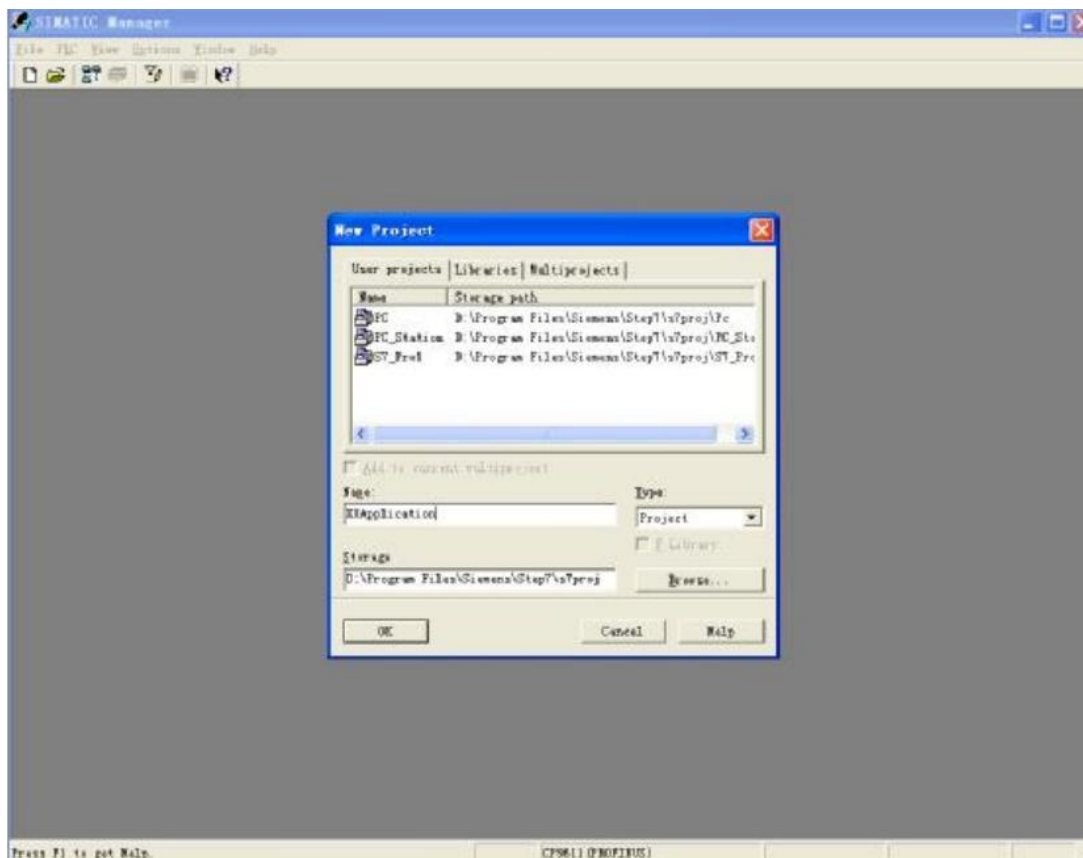

Figure 2
(3) Select File → New, type the File name: XXApplication, and then click OK, as shown in Figure 2.